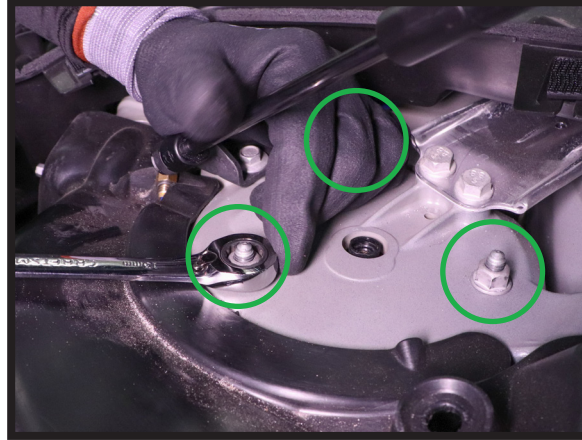

FIGURE 6
3. REMOVE THE THREE (3) TOP MOUNT NUTS. (FIGURE 6)